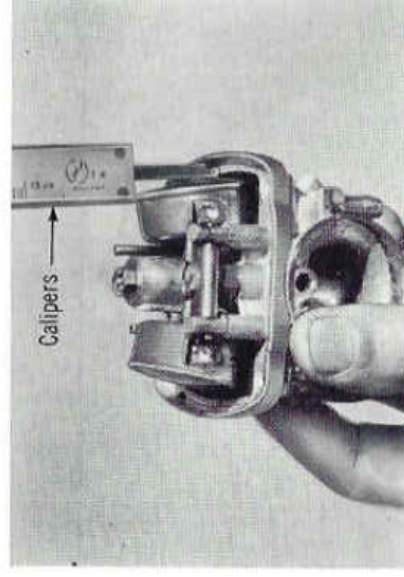

Fig. 10-4
3. Adjusting fuel level (Fig. 10-4) Remove the float chamber. Hold the carburetor upside down with the float fitted to the mixing chamber body. Lower the float gradually and stop it when the float tongue touches the upper end of the needle valve. Measure the distance between the float chamber fitted surface and the bottom of the float with calipers. If the distance is less than 23 mm (0.91 in), the fuel level is too high and if more the fuel level is too low. Adjust the distance to 23 mm (0.91 in) by bending the float tongue with a plain screw driver.